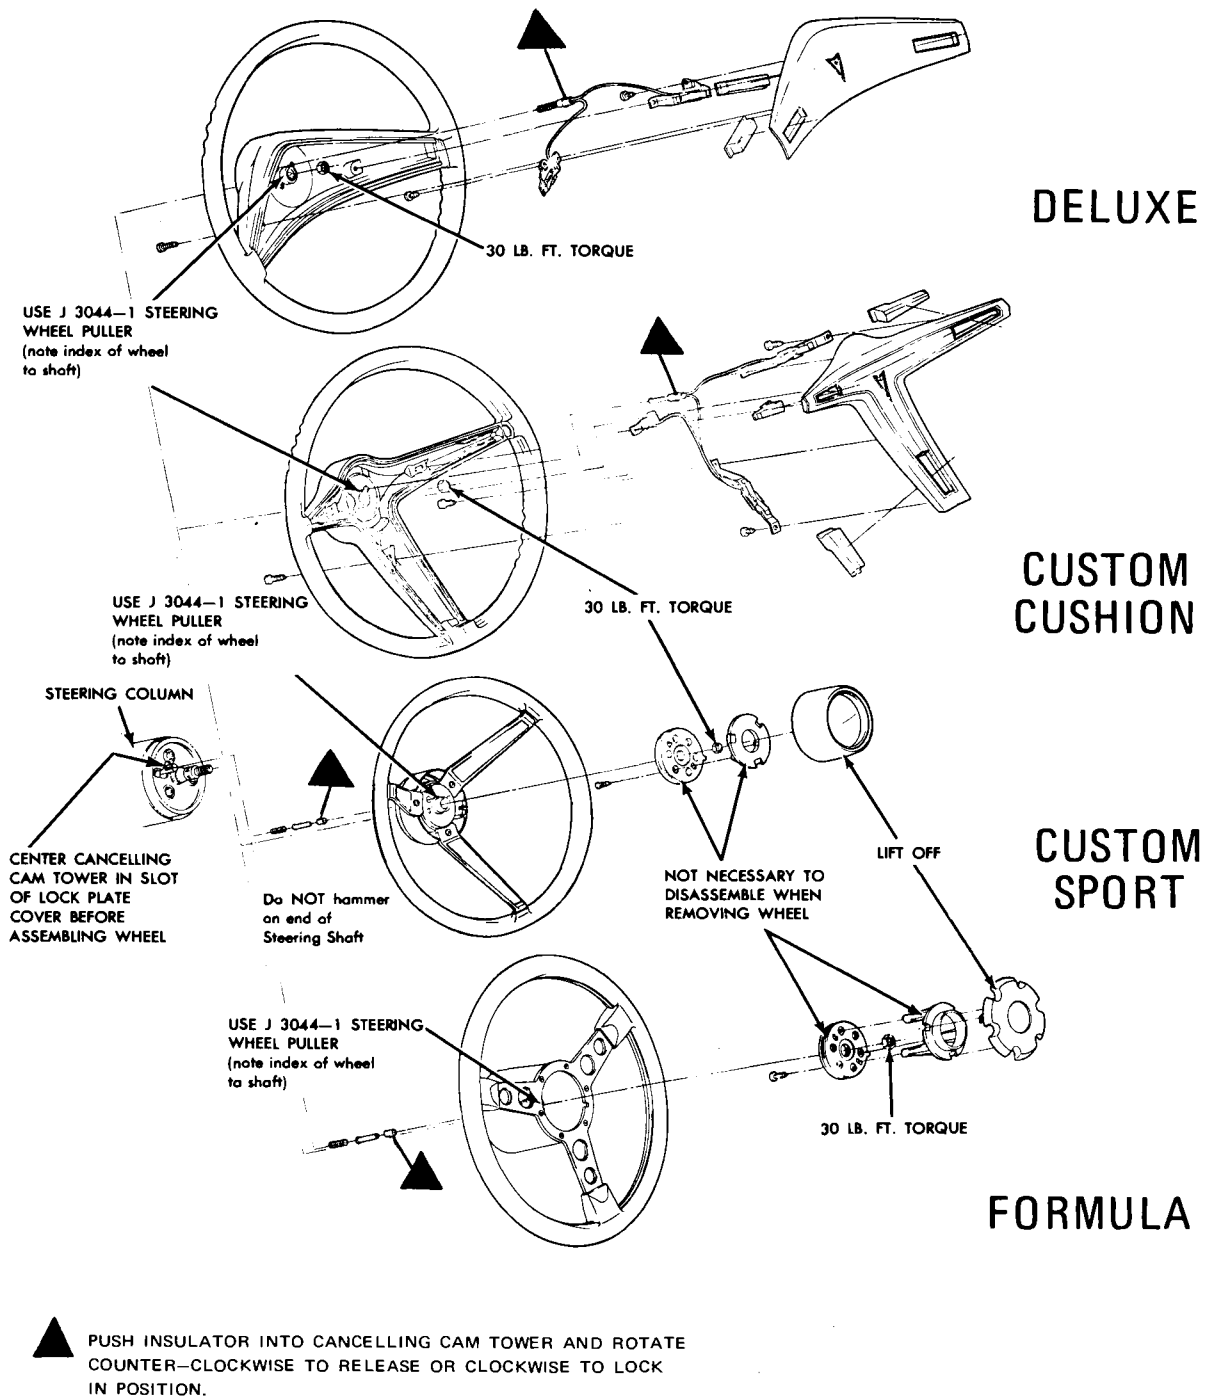

Fig. 9-20 Exploded View of Steering Wheel and Horn Button
1. Remove screws attaching trim cover to wheel or on sport type wheel, remove horn button by lifting (Fig. 9-20).